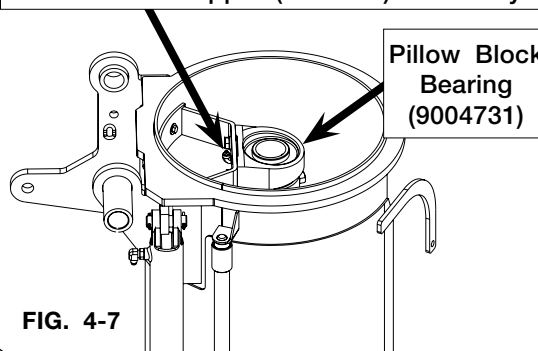

FIG. 4-7
9. Lower the upper auger assembly, turn off tractor and remove key. Slowly turn lower auger by hand while applying grease to the hanger bearing. Torque hanger bearing hardware. Grease until the grease purges out and around the drive dog housing. Apply a light coat of surface grease to drive dog conical shaft. Wipe off excess purged grease from hanger bearing top seal area. (FIG. 4-7)